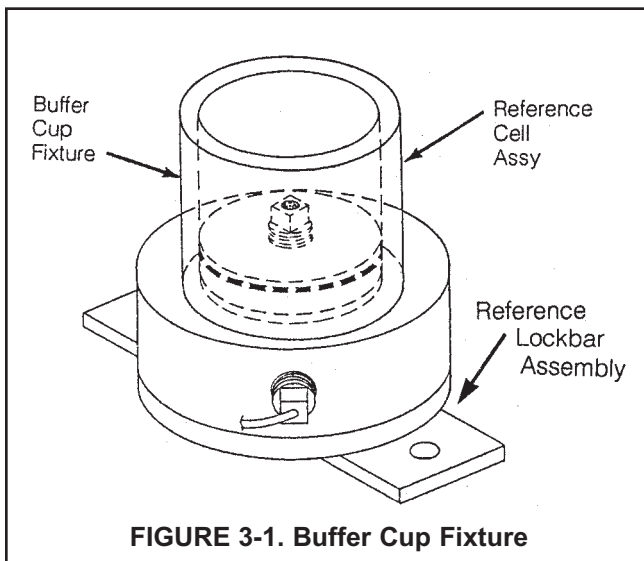

FIGURE 3-1. Buffer Cup Fixture
- b. Remove the reference cell assembly from the flow cell. With the reference lockbar assembly down, install the buffer cup fixture as shown in Figure 3-1. Make sure the reference cell is completely full of electrolyte. If any air bubbles are in the cell, they will migrate to a position directly below the liquid junction when the cell is in the position shown. This will effectively open the circuit between the reference element and glass electrode, and make standardization impossible.